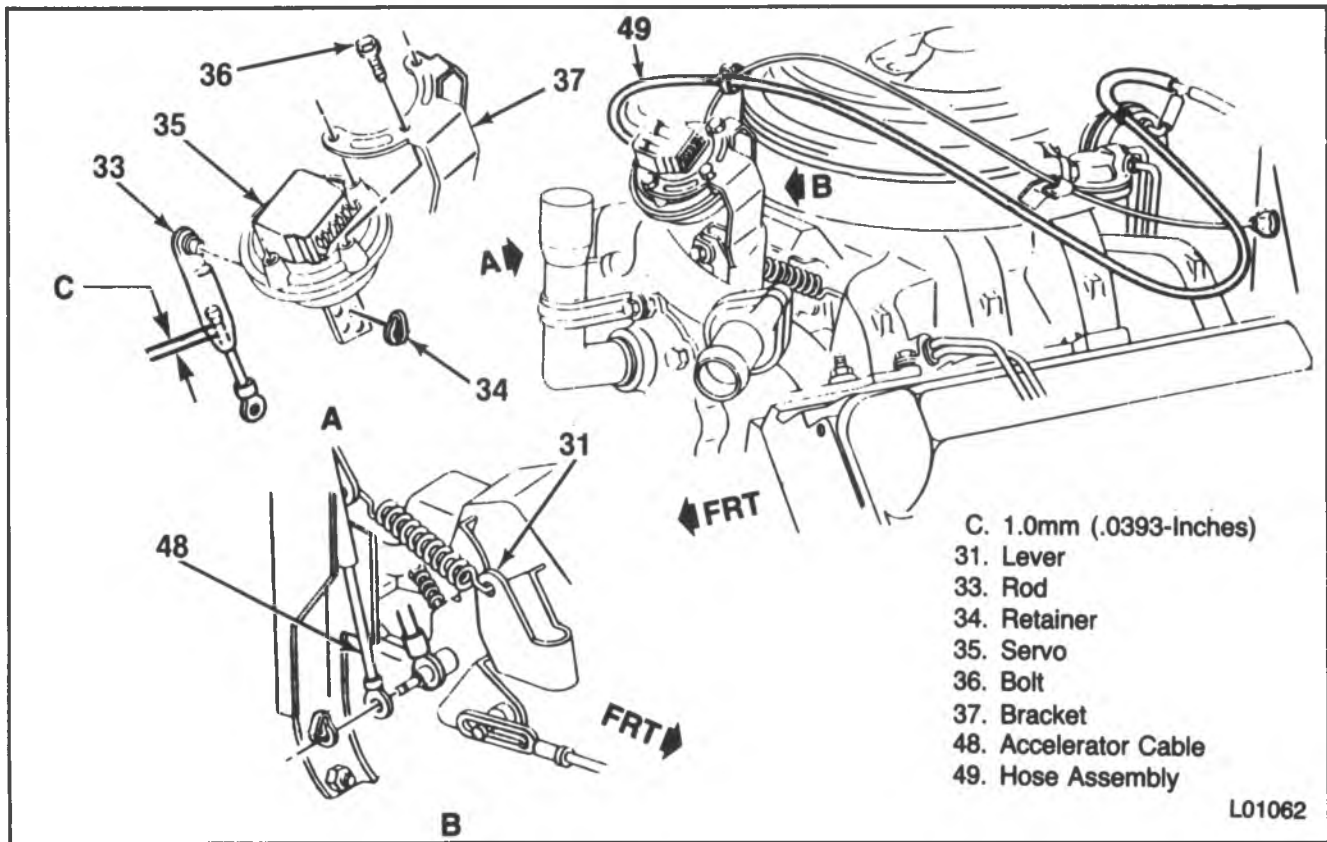

Figure 14 — Servo Mounting (R/V 6.2L)
- Position pin on rod (33) in hole closest to the servo (35) that allows for adjustment C (figure 14).